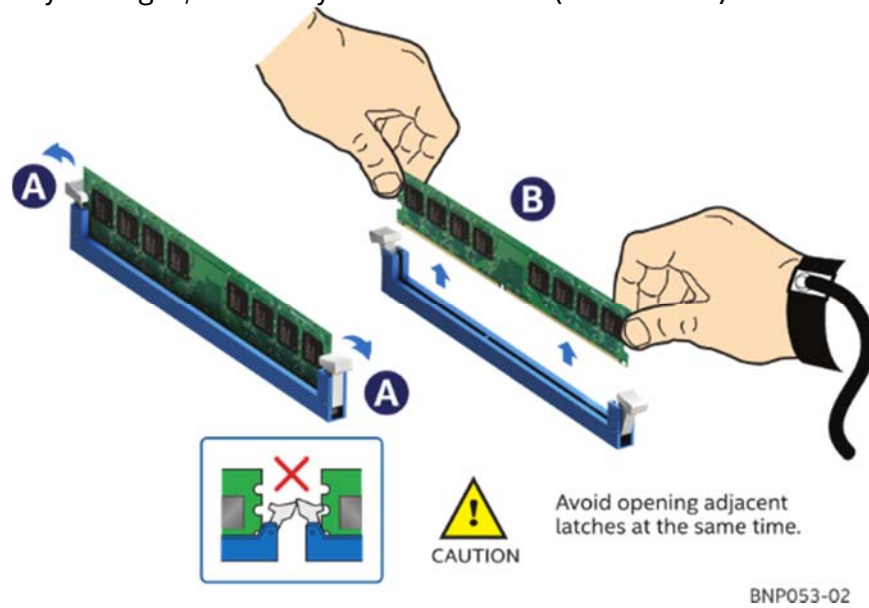

Figure 43. Memory Removal
2. Open the DIMM slot latches at either end of the selected DIMM socket (see Letter **A** in Figure 43. Memory Removal). The DIMM will lift up from the socket connectors.